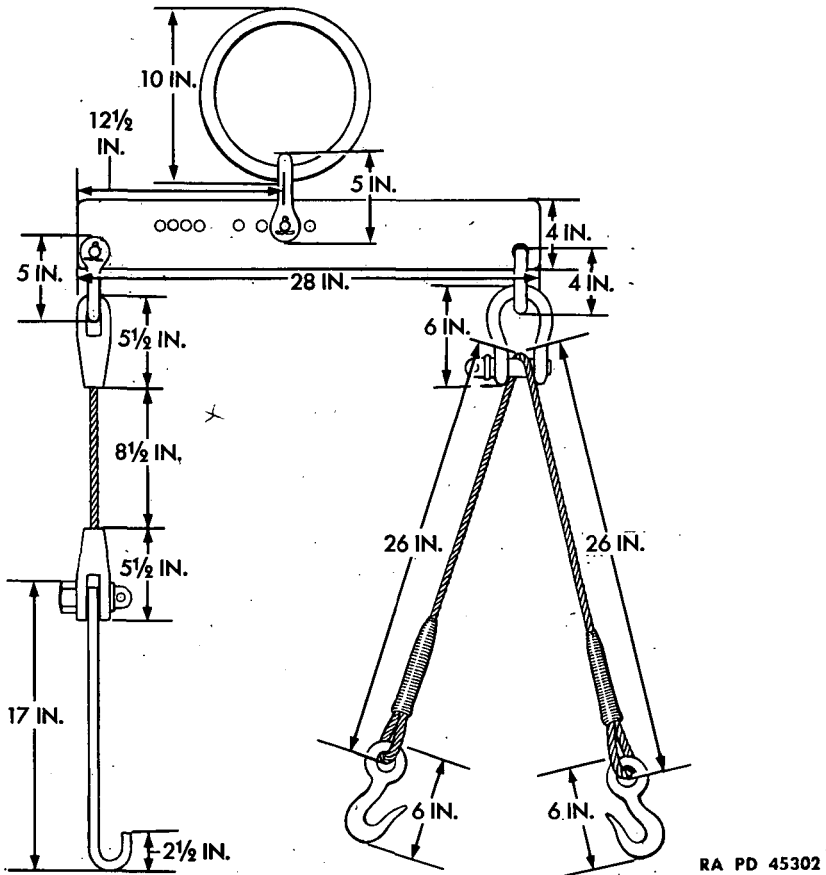

Figure 22—Detail of Engine Lifting Sling
(1) Remove the cover from the box which surrounds the engine support brackets at the rear of the engine (each side of the engine).
(2) Remove the nuts and bolts which secure the engine support brackets to the brackets on the hull.
p. Attach Engine Lifting Sling (fig. 22). Lay the engine lifting sling on top the engine. The two hooked cables pass down the accessory-end of the engine and hook on each side of the engine support beam. The curved bar on the opposite end of the sling hooks onto the flange of the engine flywheel.
a. Attach Engine Lifting Sling (fig. 22). Lay the engine lifting sling on top of the engine. The two hooked cables pass down the accessory-end of the engine, and hook on each side of the engine support beam.